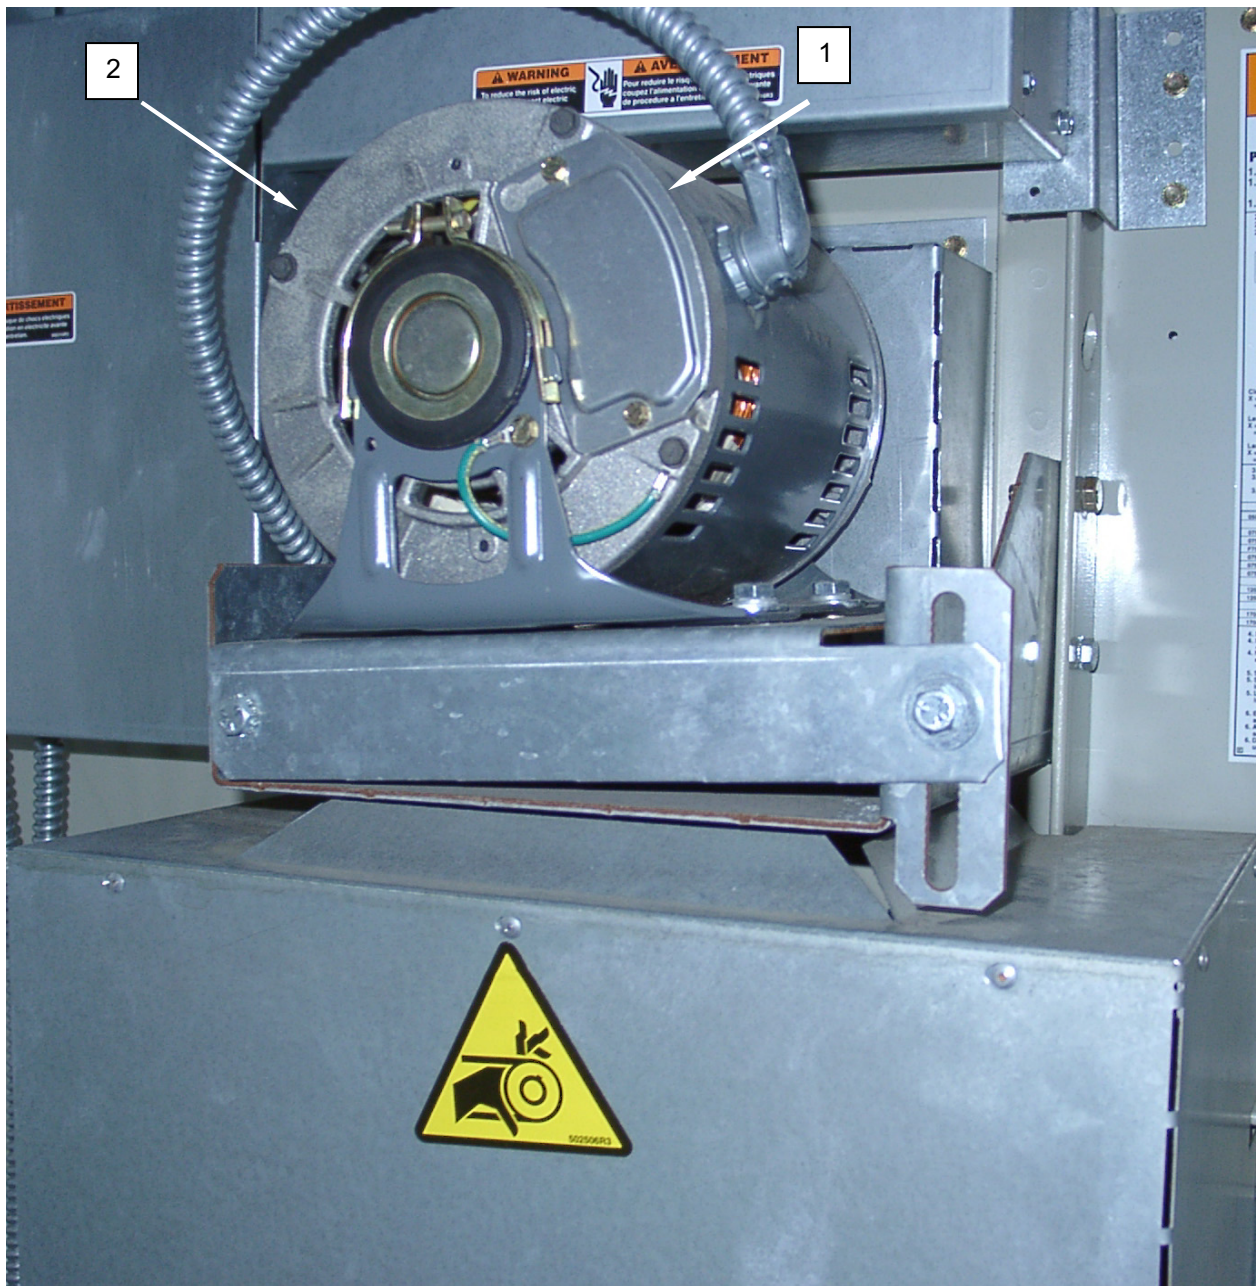

Figure 1. Test the Cylinder Drive Motor.
2. Remove screws retaining junction box cover (**Figure 1, Item 1**) and remove junction box cover.
3. Tag and disconnect wiring from motor (**Figure 1, Item 2**).
6. Replace an open or shorted motor (**Figure 1, Item 2**).
8. Install junction box cover (**Figure 1, Item 1**) and retain with screws.
3. Locate the fan contactor (**Figure 1, Item 3**).
4. Tag and disconnect wires (**Figure 1, Item 4**) from T1 and T2.
5. Use an ohmmeter to test for 4 ohms resistance between disconnected wires (**Figure 1, Item 4**).
6. Use an ohmmeter to test for infinite resistance between each disconnected wire (**Figure 1, Item 4**) and ground.
8. Connect wiring (**Figure 1, Item 4**) as tagged.